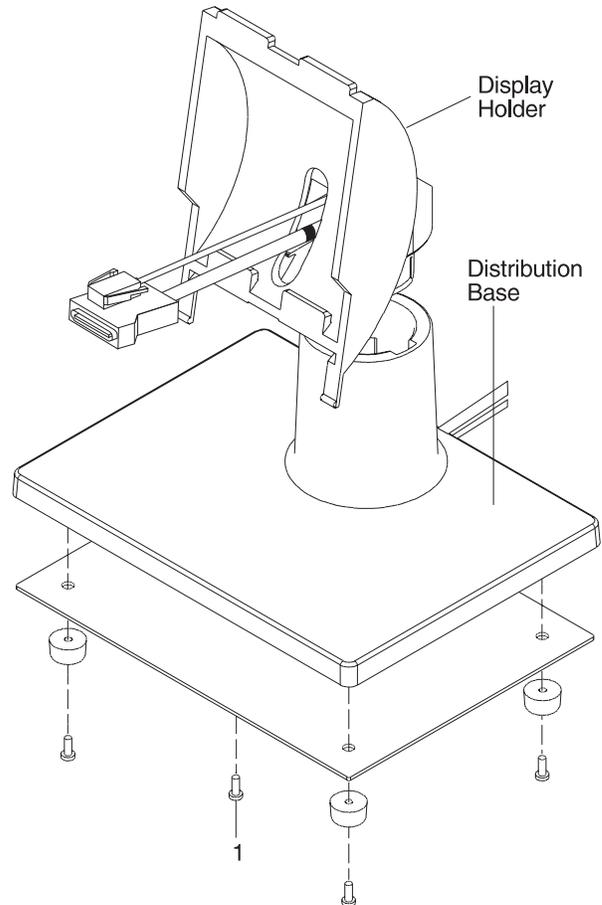

Figure 3-21. Distribution Base
- 2 Remove the distribution base from the checkstand by removing screw (1). See Figure 3-21.
- 3 Remove the touch display from the display holder. See Figure 3-21.
- 1 Make sure that the small cable exits the display holder on top of the large cable. See Figure 3-21.